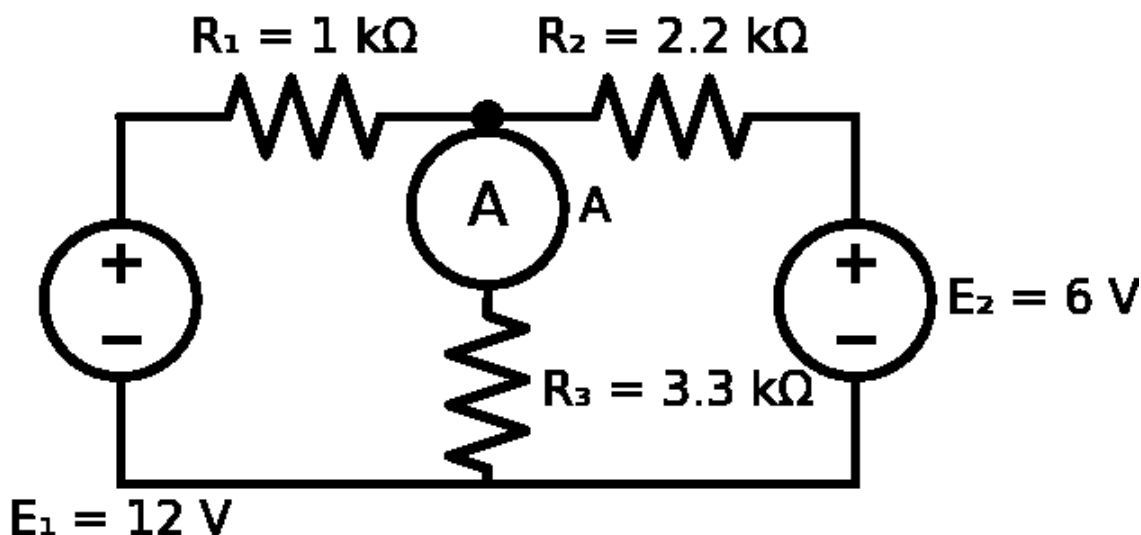

Figure 2.1: Two-source circuit for verifying KCL and KVL (ammeters are placed in each branch; the figure shows the meter in the R_3 branch).
Applying the laws to Figure 2.1: with the node voltage V (bottom as reference), the three branch currents are $I_1 = (E_1 - V)/R_1$ (towards the node), $I_2 = (V - E_2)/R_2$ (away from the node, into E_2), and $I_3 = V/R_3$ (down through R_3). KCL at the node gives $I_1 = I_2 + I_3$, which is solved for V (nodal analysis).
- Connect the circuit of Figure 2.1 and measure the current I_3 in R_3 with both sources acting.